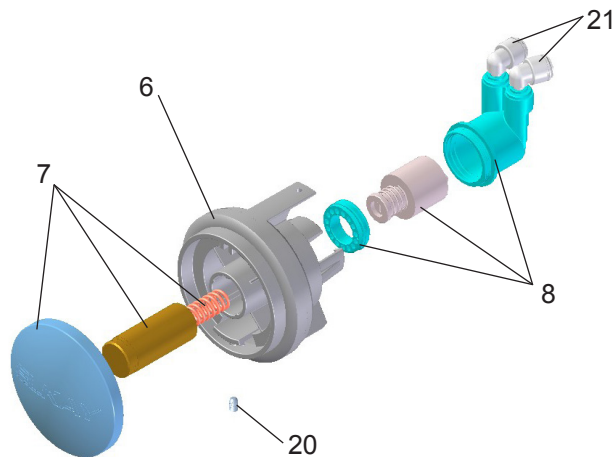

Figure 9 - Push Button Assembly
14. **Check** stream height from bubbler. Stream height is factory set for 35 PSI supply. If supply pressure varies greatly from this, remove push button (Item 7 - Fig. 9) and adjust the screw on the regulator (Item 8 - Fig. 9). To remove push button, remove setscrew from bottom of sleeve (Item 6). Insert a small punch in screw hole and push up while grasping the push button and pull forward removing the push button. Clockwise adjustment will raise stream height and counterclockwise movement will lower stream height. For best adjustment stream should hit basin approximately 6-1/2" from the bubbler. Reassemble the push button by pushing in on button until the push button catches in the sleeve. Reinstall the setscrew (Item 24) in the sleeve (Item 6).